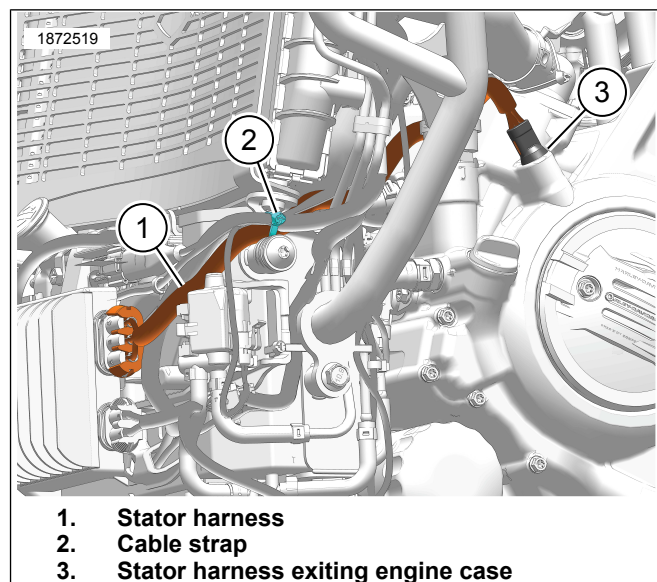

Figure 3. RA1250/S
5. See Figure 3. **RA1250/S**: Route stator harness (1) and secure with cable strap (2) as shown.